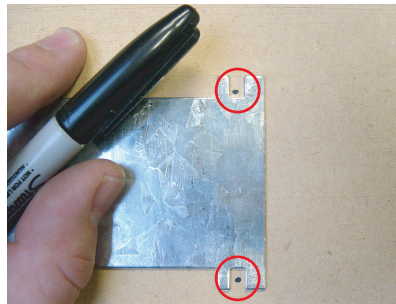

figure 1
b. To mount wiper motor, drill 4 - 5/32" holes. (fig. 1)